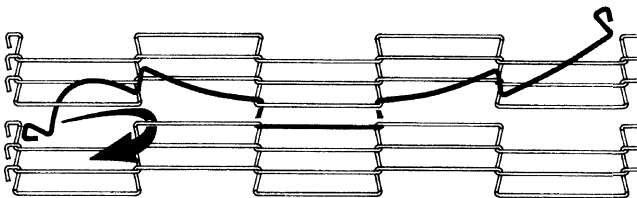

Figure 89: Spreading Splicing Link Apart
5. Tighten the ties to bring either end of the wire belt closer together until the ends meet, then pull the ends of the splice through the links of the wire belt and spread the splice link ends apart. Refer to Figure 89.